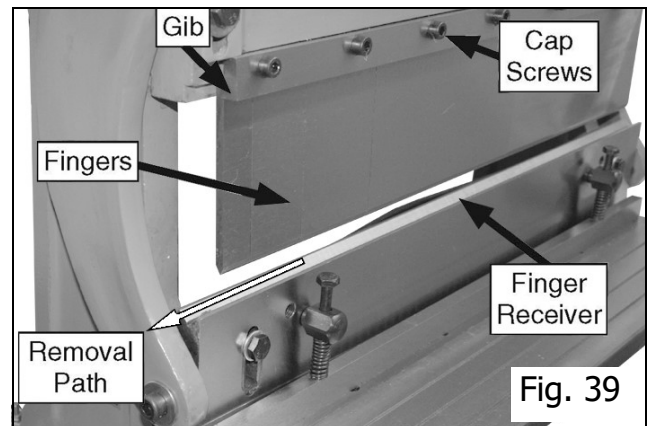

Fig. 39
4. Use the hand crank to position the brake finger receiver close to the brake fingers, as shown in Figure 39.
5. Loosen the gib cap screws to release the fingers, then remove the fingers from the side of the finger receiver, as shown in Figure 39.
7. Place a thin piece of wood on the finger receiver, as shown in Figure 39, then reinstall the fingers so that they rest on the wood. Make sure the tops of the fingers are between the gib and the casting.